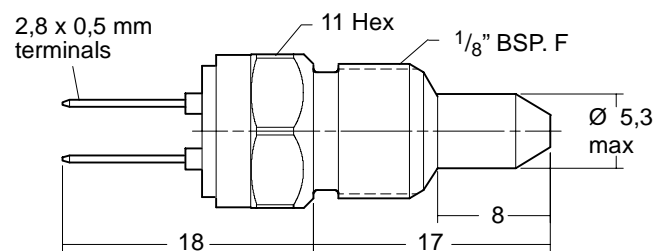

Fig. 1. T7335A dimensions
See fig. 1., 2. and 3.
- Mount the sensor into a threaded tapping and tighten (torque 8 ... 12 Nm). For suffix A use a mounting hole in accordance to fig. 1 (no sealing material necessary)